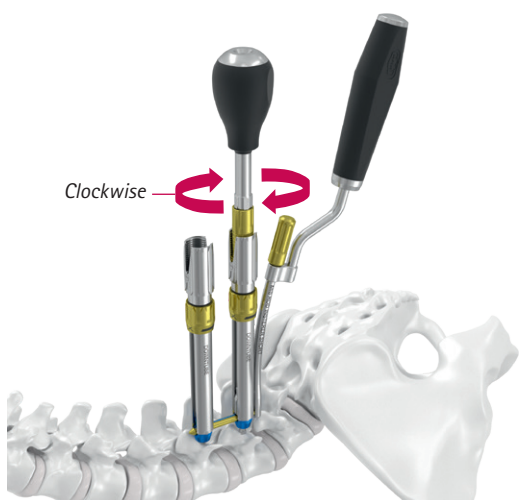

Fig. 24
- Thread the gold knob clockwise. The Rod Pusher handle may be used for additional support. (Fig. 24)